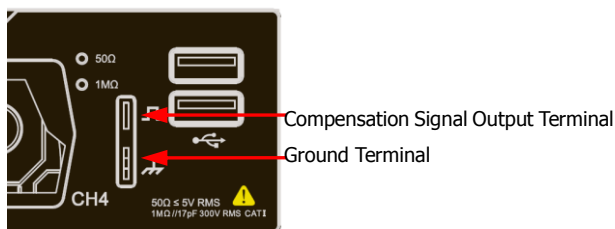

Figure 1-8 To Use the Compensation Signal
2. Connect the ground alligator clip of the probe to the "Ground Terminal" as shown in Figure 1-8 below.
3. Use the probe to connect the input terminal of CH1 of the oscilloscope and the "Compensation Signal Output Terminal" of the probe, as shown in Figure 1-8.